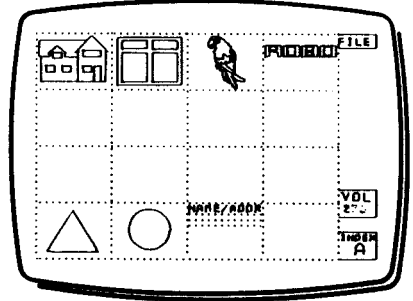

Fig 4
- 6 Select **FILE** from the menu, then place your name and address in an empty library box, as in Fig 4.